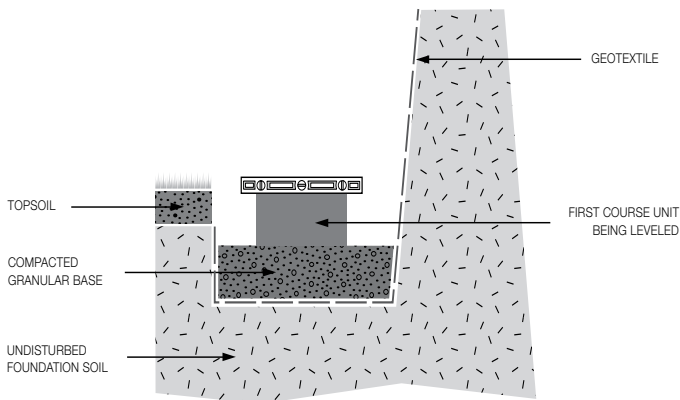

Figure 33. First course positioning and leveling.
*First course leveling* - Position a level string line to mark the location of the first course. Then, the first course of units can be placed on the prepared base, making sure that the units are leveled front to back and left to right. Use the string line to keep the wall units straight and a standard carpenter level for leveling the individual units. Small amounts of coarse sand can be used to “fine-tune” the level of each unit (Figure 33).